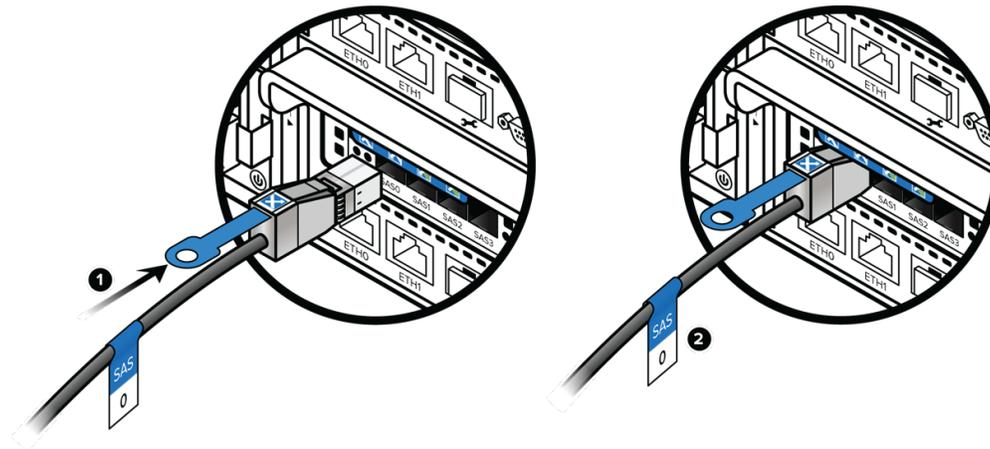

Figure 7-12. Connecting SAS Cables
2. Verify that the label on the connector matches the label of the port (see Figure 7-12).